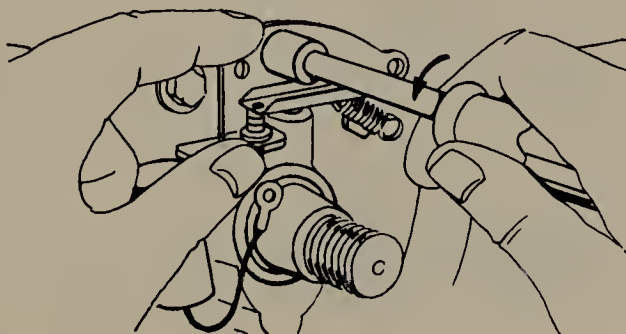

FIGURE 14.17 On this design, the breaker-point assembly is removed by loosening the adjustment lock screw. (Briggs and Stratton Corporation.)
2. Installing New Points. If points are badly burned, worn, or pitted, they should be replaced. Badly burned points could be due to a defective condenser, contact points out of adjustment, or oil on the contact surfaces. Check for these conditions before replacing the points. Various methods of attaching the stationary point and breaker arm are used. On the type shown in Fig. 14.17, the point assembly is removed by removing the condenser wire from the breaker-point clip and then loosening the adjusting lock screw so the assembly can be slipped off. On the type shown in Fig. 14.18, the breaker arm is removed by loosening the screw holding the post in position. The stationary contact is on the condenser and is removed along with the condenser by loosening the condenser-clamp screw.